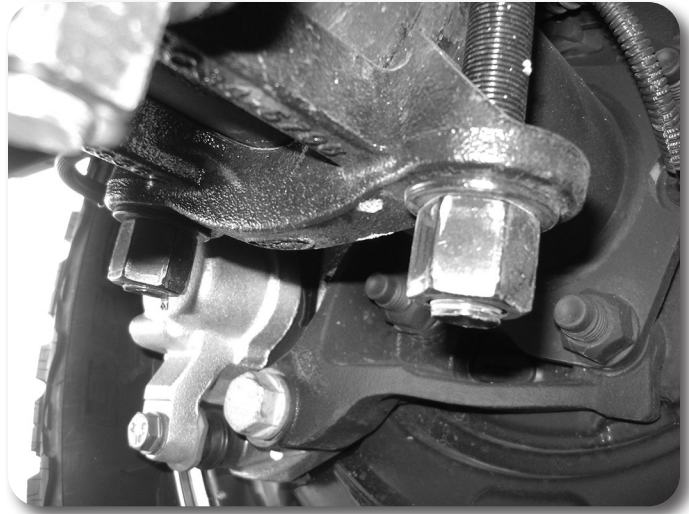

Figure 24
19. Raise the axle to engage the block spring alignment pins. Fasten the entire assembly with the provided u-bolts, washers, and nuts. Snug but do not torque the u-bolts at this time. Figure 24